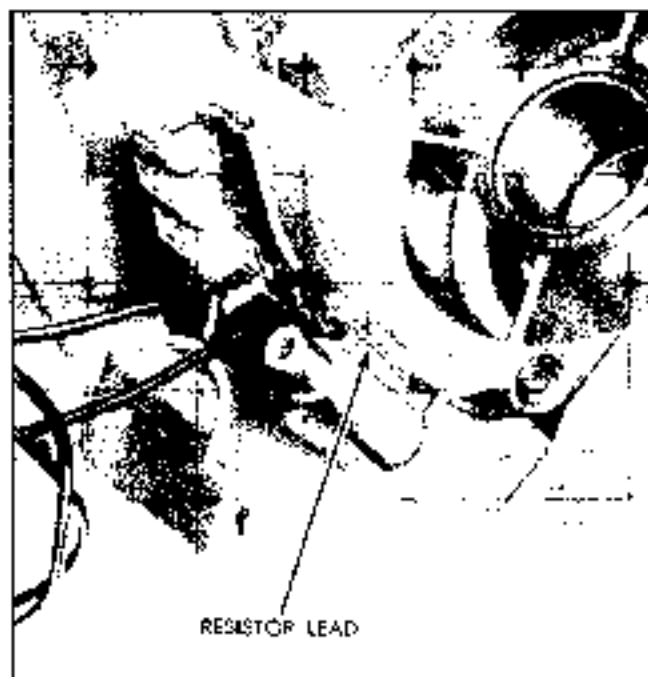

Fig. 12-35 Position of Resistor Lead—Pontiac
4. Slide terminal board into wiper housing, being careful to position terminal board resistor lead as shown in (Fig. 12-35).
2. Slide gear out of housing (Fig. 12-35).
6. Assemble inner spacer washer over gear shaft and assemble gear mechanism in housing so that the pawls are approximately 180° away from the latch assembly (Fig. 12-35).